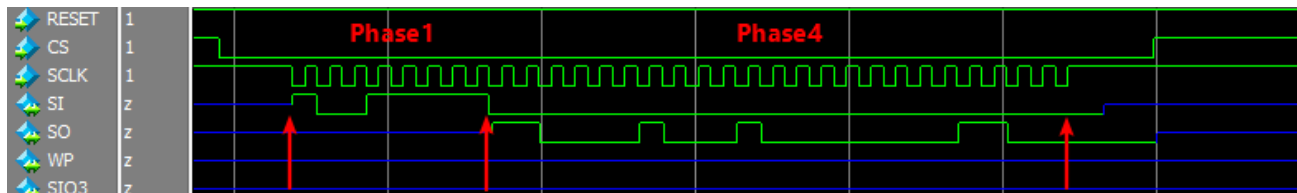

Figure 5.5. Example for RDID Sequence
- SPI RDID example (Figure 5.5):